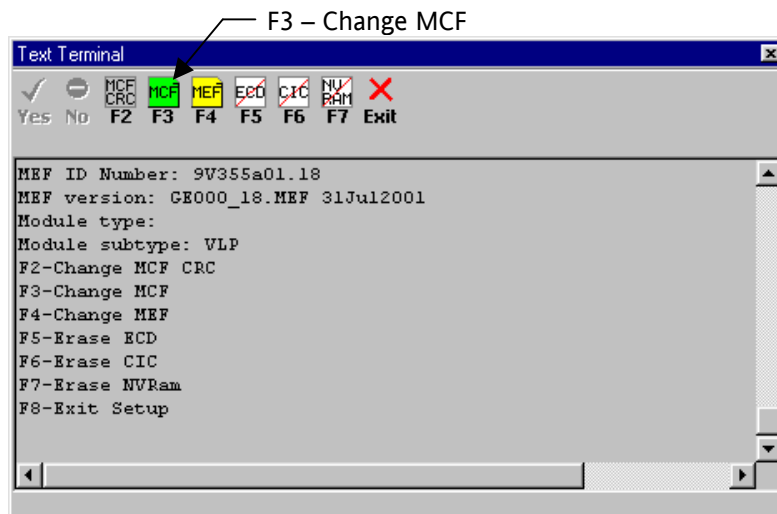

Figure 3-26
3. A boot screen similar to figure 3-26 appears listing the Function Key options.
11. The Text Terminal screen refreshes and displays the Function Key options (refer to figure 3-26) as the 4-character display on the GEO™ unit CPU/CPU2 module reads “BOOT”.
1. After the MCF was downloaded and verified (paragraph 3.1.4.2), the function keys are again displayed (refer to figure 3-26). The boot up of the GEO™ unit cannot complete until the MCF CRC is entered.